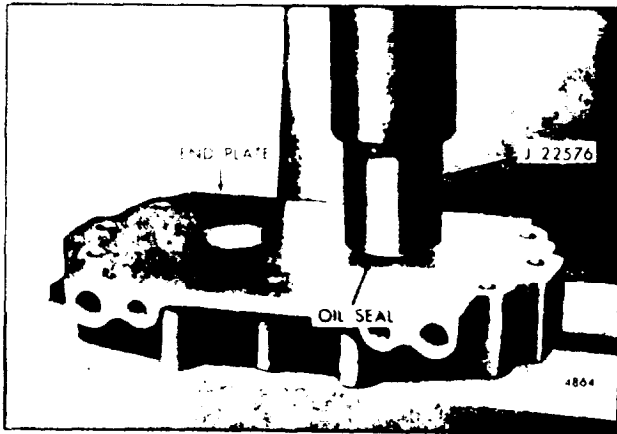

Fig. 9 - Installing Lip Type Oil Seal in End Plate
- b. Lubricate the outer diameter of the seal and, using installer J 22576, press the seal (lip facing down) into the counterbored hole until the shoulder on the installer contacts the end plate (Fig. 9).